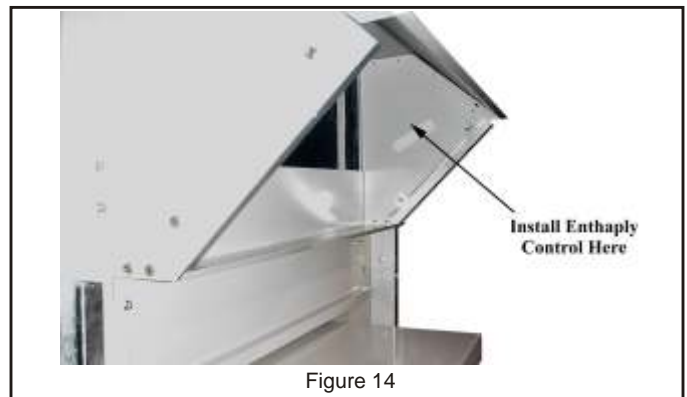

Figure 14
- Installations using an A7 enthalpy sensor - Remove the screws to the filter access panel of the fresh air hood on the ERS and remove the air filter. Reinstall the A7 enthalpy control sensor with retained screws removed on the bottom panel of the fresh air intake hood. **See Figure 14.**